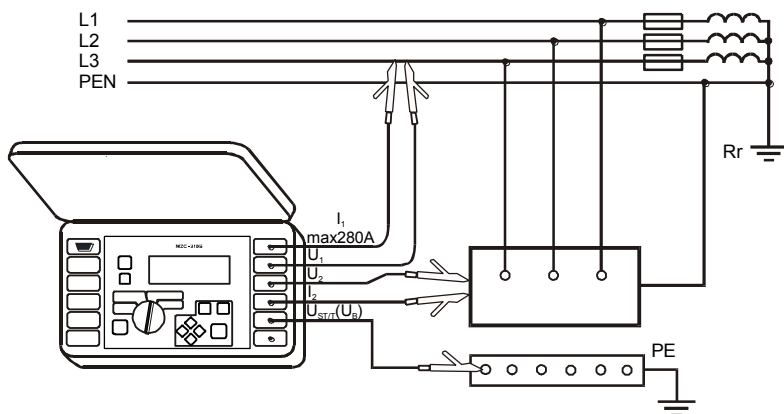
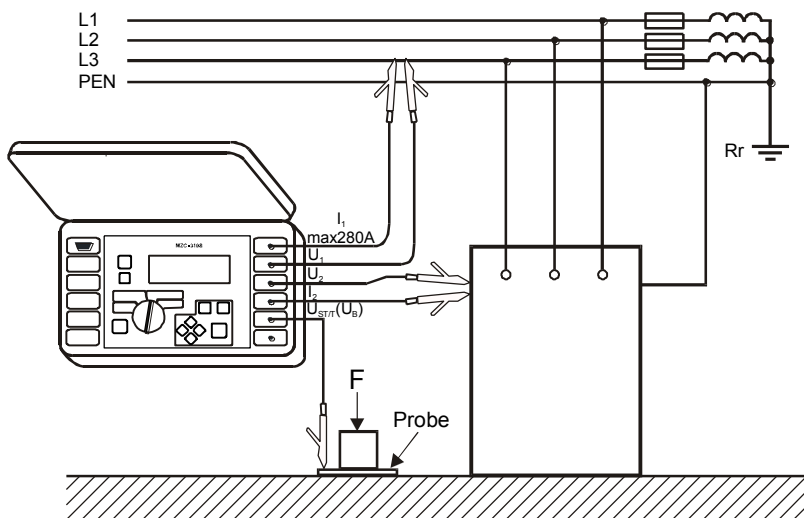

Fig.18. Measurement of touch voltage U_{ST}
Fig.19. Measurement of shock voltage U_r
In the short-circuit loop parameters measurement (2p or 4p) mode, the instrument constantly monitors the network voltage and frequency in the way described in section 7.6. Their values are displayed at the bottom of the screen. Index attached to the voltage U symbol informs the user whether the phase voltage - U_{LN} , or the inter-phase voltage - U_{LL} is measured, or whether the voltage value exceeds the ranges shown in Fig.19. - U_E . The same rules to determine the voltage type apply to the voltage measured while measuring the short-circuit loop impedance.
- Connect test leads as in Fig.18 for U_{ST} or as in Fig. 19 for U_T .
The measurement of touch shock voltage U_T is performed after introducing an additional resistor (inside the device) of 1k Ω between the terminals U_2 and $U_{ST/T}$ (U_B). The resistor simulates resistance of the human body, while the terminal $U_{ST/T}$ (U_B) is to be connected to the probe that simulates human feet located on the ground (Fig.19), whose properties and load are described by relevant standards.